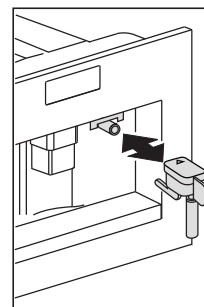

Fig. 13
- Attach it as shown in figure 13. The appliance displays: "HOT WATER PRESS OK".